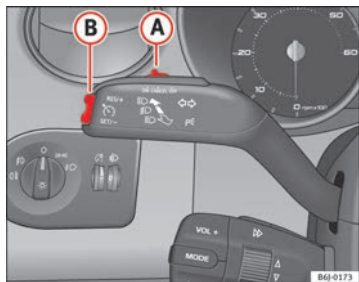

Fig. 112 Turn signal and main beam headlight lever: switch and rocker switch for the cruise control
- Press the lower part **SET** of the rocker switch ⇒ fig. 112 **B** once briefly when you have reached the speed you wish to set.